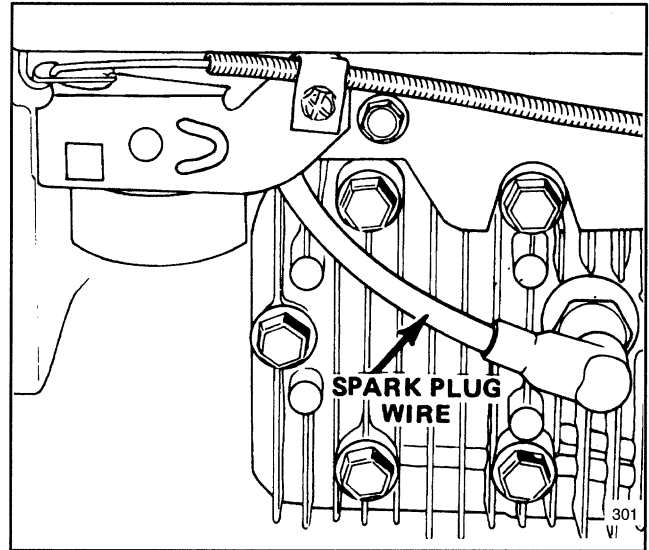

Figure 11
1. Stop the engine and pull the wire off the spark plug (Fig. 11).
1. Stop engine and pull wire off spark plug (Fig. 11).
3. Set air gap at 0.030" (0.76 mm) (Fig. 11). Install correctly gapped spark plug and gasket seal. Tighten plug firmly to 15 ft-lb (20 N·m).